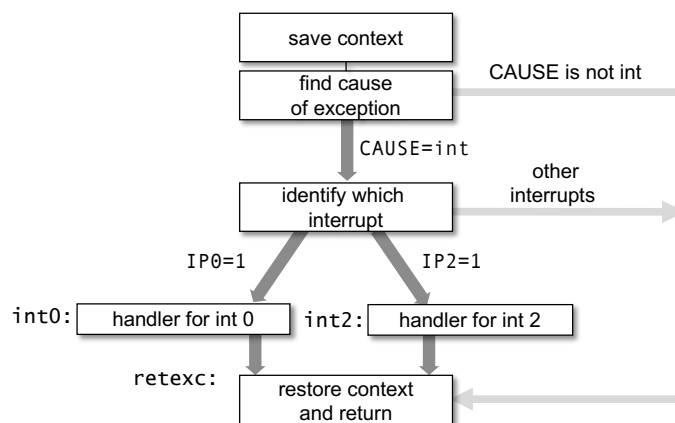

Figure 9. Decision on which handler to execute, int0 or int2
Every interrupt (and generally, every exception cause) requires specific handling. In this step, you will build a small decision tree to associate each interrupt with its own handler. At this point, our handler always does the same handling (print an asterisk) regardless of the interrupt request received. The goal now is to implement the scheme shown in Figure 9 to discriminate the exception cause and give it adequate handling.
- Add a new label (*retexc*, as in Figure 9) to mark the point in the handler that restores the context and gives the control back to the interrupted program. Jumping to *retexc* from any point in the exception handler will restore the context and return to the user program.